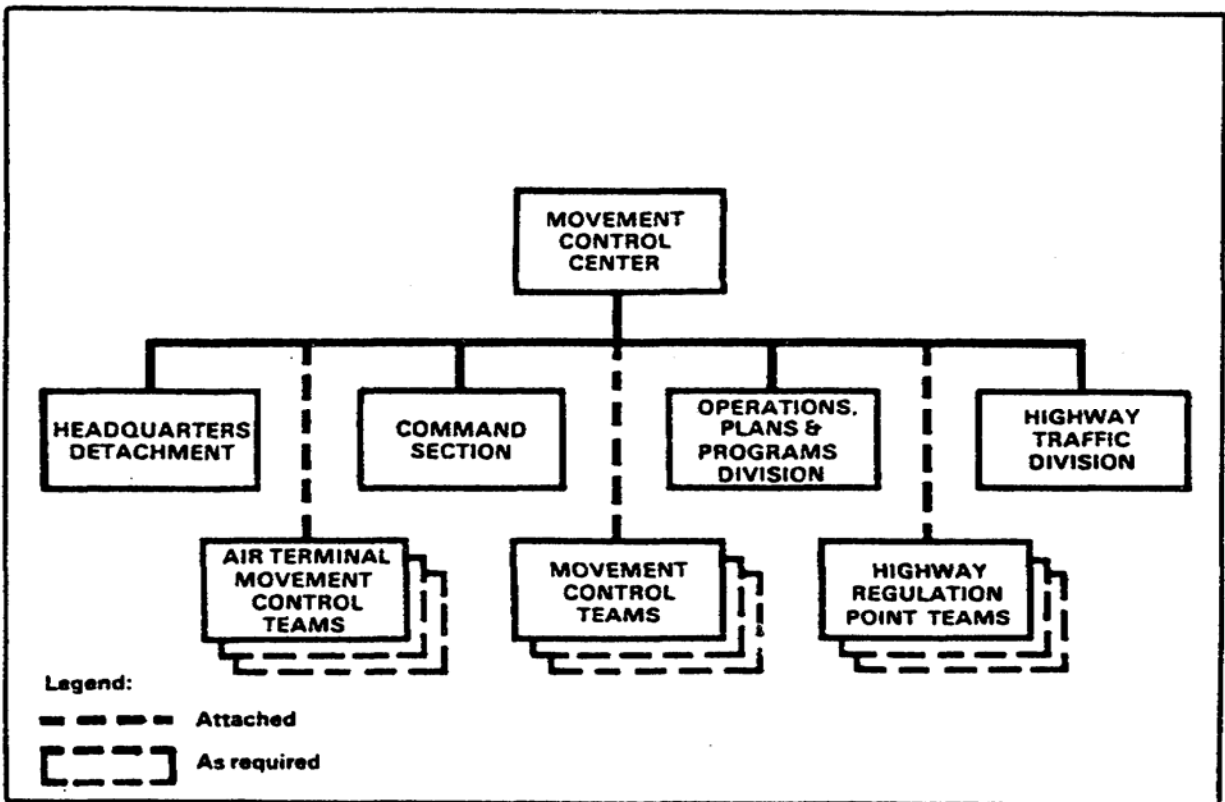

FIGURE 1-1. TRANSPORTATION MOVEMENT CONTROL CENTER, COSCOM.
(1) At corps and higher levels, there are transportation units that contain an element primarily concerned with highway traffic. Movement management in the division is performed by the division transportation officer (DTO) and the division support command (DISCOM) movement control officer (MCO). Figure 1-1 illustrates the COSCOM transportation organization.
(2) The purpose of the HTD is to form a centralized "nerve center." The HTD regulates the highway networks by planning, routing, scheduling and directing road movements. The commander's priorities and the situation will determine how much regulation is required. The HTD is a part of the movement control center (MCC)(Figure 1-1). A transportation officer operates the HTD.
(3) The HTD coordinates all highway movement within the corps. The HTD regulates the highway net by planning, routing, scheduling, and directing road movements based on the corps commander's priorities. Subordinate highway regulating point teams (HRPTs) in the field carry out the traffic regulation plan in coordination with the HTD and appropriate host nation civil police and military authorities.
(4) A highway plans officer is the chief of the HTD, and movement control, highway traffic engineer, and military police personnel are assigned. Engineer command (ENCOM), MP liaison, and representatives of other services are made available when required to coordinate matters of interest to their respective offices.
(5) In the communication zone (COMMZ), highway regulation is normally restricted to main supply routes (MSRs) and to certain essential alternate routes. Any unit or activity requiring use of these routes and designated controlled routes (subject to traffic or movement restrictions), must obtain clearance from the HTD.